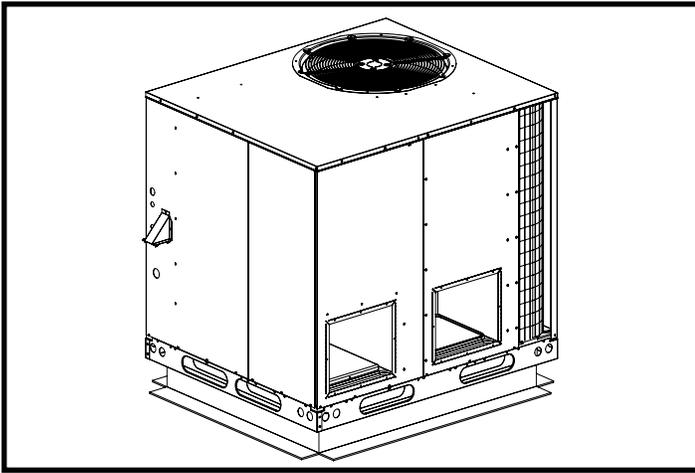

Figure 4. Roof Top Installation
- The appropriate accessory roof curb must be installed prior to unit installation. The roof curb must be square and level to ensure proper condensate drainage. See Figure 4 \(page 10\). Please follow all instructions provided with the kit.